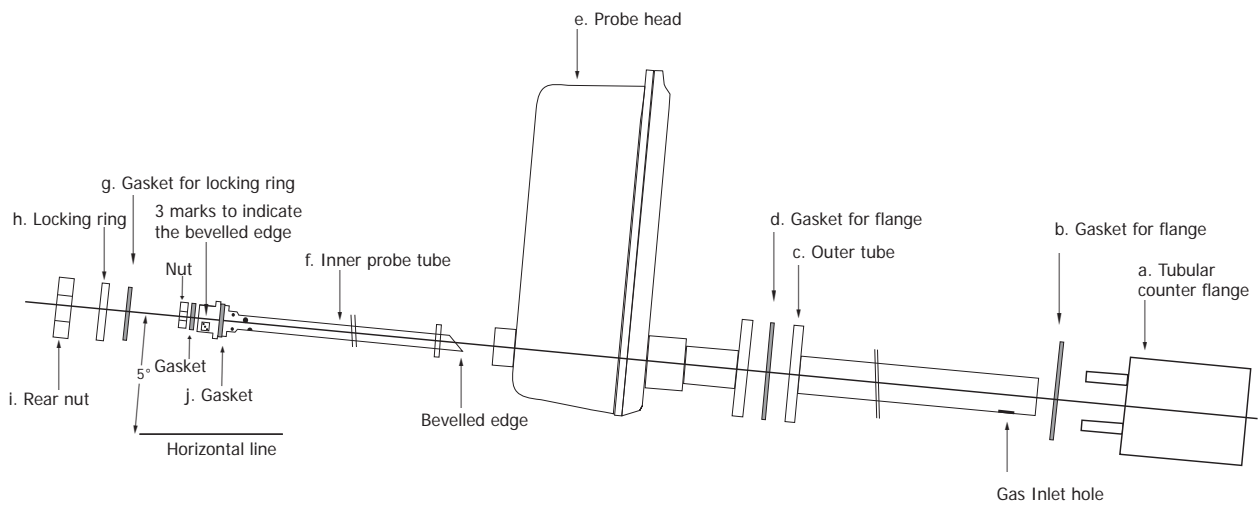
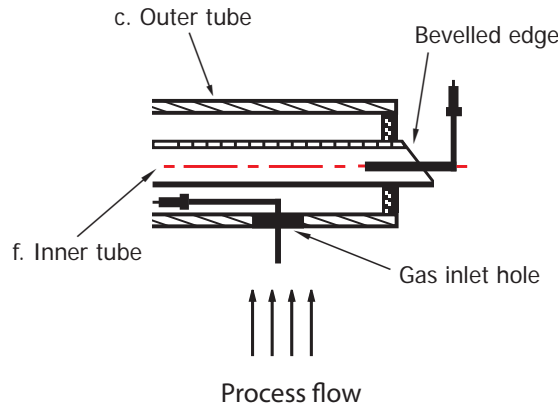

Figure 8 Probe Installation
Figure 12 *Inner Tube Orientation*
- Place the outer probe (c) with the flange gasket (b) according to the drawing in *Figure 8*. The gas inlet hole should face the process flow.
4. Place the gasket onto the inner tube (f) and insert into the probe head (e) (see *Figure 8*). Make sure the bevelled edge of the inner tube tip faces the opposite direction to the gas inlet hole on the outer tube (c) as shown below. There are three marks on the other end of the inner tube to indicate the orientation of the bevelled edge (see *Figure 12*).
5. Place the locking ring (h) with the locking ring gasket (g), the rear nut (i) and the inner tube gasket (j) accordingly on the rear of the probe head. (See *Figure 8*)